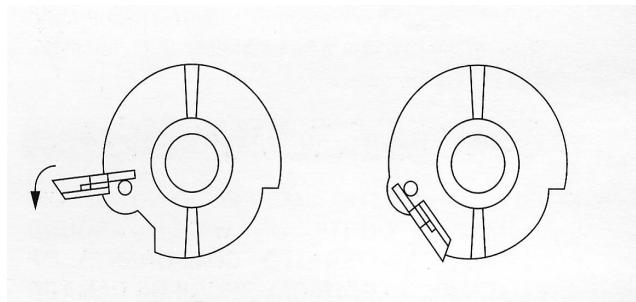

Fig. 29
- e. Rotate the scraper blade assemblies into position as shown (Fig. 29).
- f. Insert the dasher assembly into the freezing cylinder as far as possible being careful not to damage the scraper blades. Damage will occur to the scraper blades and the dispenser will not operate properly if the scraper blades are installed facing in a clockwise direction (Fig. 29).